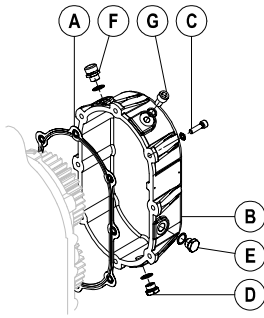

Fig. 6.17
- With reference to Figure 6.17, fill the tank with oil (approx. 1 litre) level and tighten the filling vent plug (F) with the aluminium washer and tighten properly.